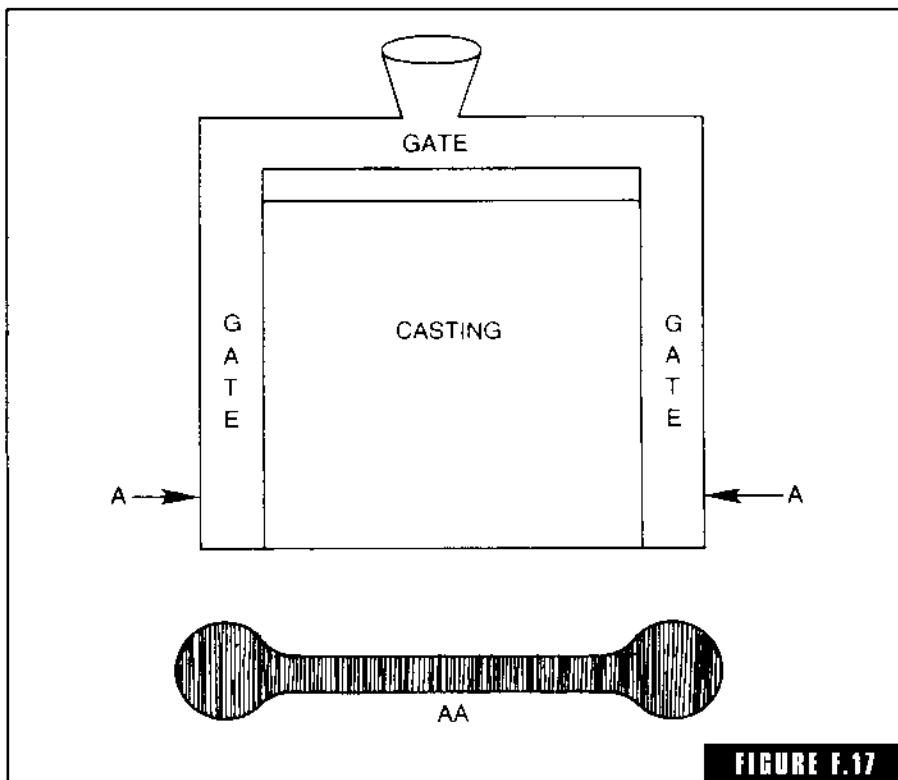

FIGURE F.17
**French gates** The system of pouring flat plates on end rather than horizontally. The French gate is attached to the casting its entire length (Fig. F-17).